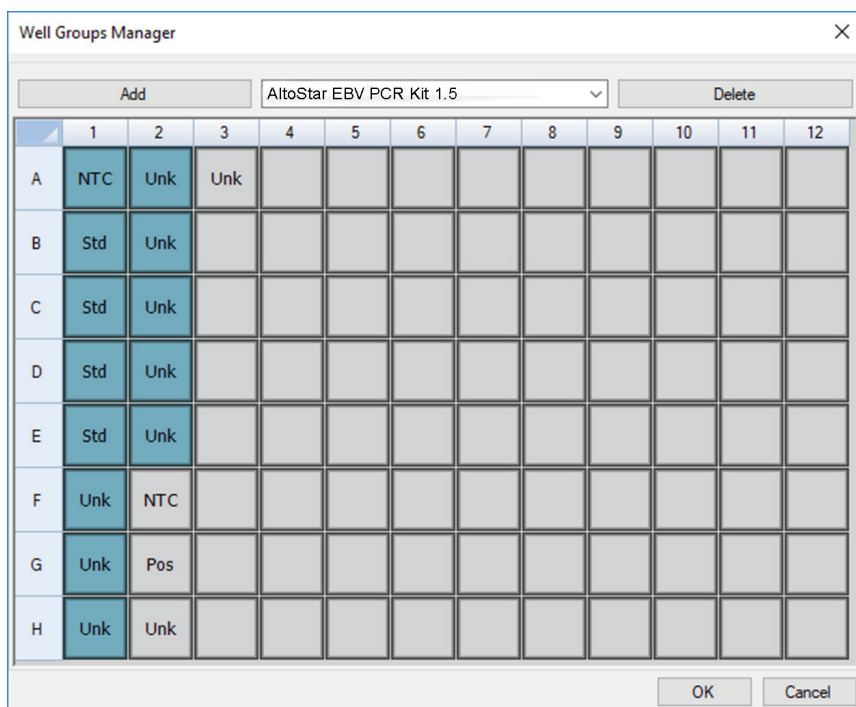

Figure 2: Well Groups Manager dialog
- In the Plate Editor dialog click **Well Groups...** in the tool bar. The Well Groups Manager dialog is displayed (see figure 2).
- Select all wells in the PCR plate area that belong to the first assay (see figure 2). The wells belonging to an individual assay can be identified in the Plate Editor dialog by the entry in the **Biological Set** field.